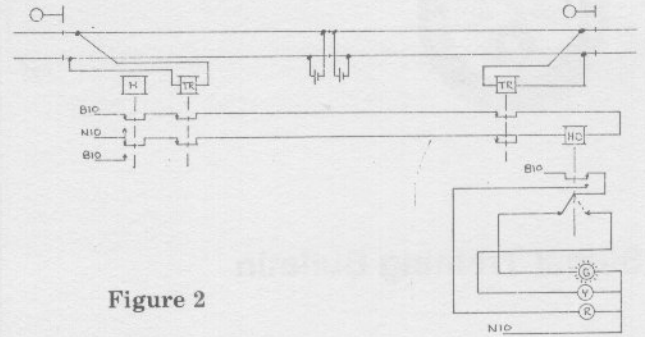

Figure 2
displaying an aspect indicating Stop. This can be accomplished by determining the condition of the control (H) relay that controls the next signal. Refer to Figure 2. Once